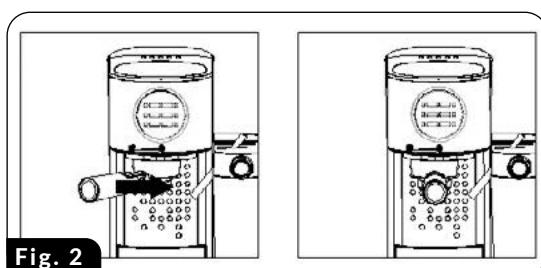

Fig. 2
1. Place the portafilter (10) with the filter basket (13) inside the portafilter mounting space (5) so that the portafilter handle (12) aligns with the open lock symbol on the frontal panel of the espresso machine (Fig. 2).
2. Gently turn the portafilter handle (12) to the right so that it aligns with the closed lock symbol on the frontal panel of the espresso machine.
3. Detaching the portafilter and removing the filter basket is done in the reverse order, i.e., gently turn the portafilter handle (12) to the left, remove the portafilter (10) from the portafilter mounting space (5) and remove the filter basket by turning to release it.